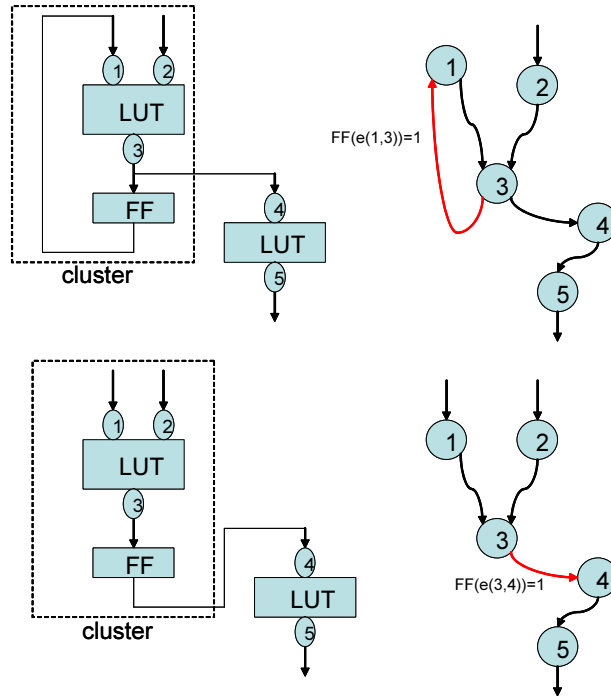

Figure 1: Two cases for FF insertion in VPR
In the timing graph, there are two cases for FF insertion, with and without feedback loop in the circuits, which are shown in Figure 1, where we suppose there is only one basic logic block in a cluster for simplicity. The two red edges are initially assigned positive weight, i.e. FFs are inserted in these edges.
The network is still the timing graph and the cost associated with each edge e is $FF(e) \cdot (P - D_{ff}) - d_{uv}$. (3) and (7) will introduce backward edges with cost $D_{ij} - FF(e) \cdot (P - D_{ff}) + d_{uv}$ and $P(2 - FF(e))$, respectively in the timing graph. Note that these backward edges can not introduce negative circles to the timing graph. For the backward edges introduced by feedback path in the first case in Figure 1, it won't introduce negative circles in the circuit neither as we always assume the circuit is well designed.